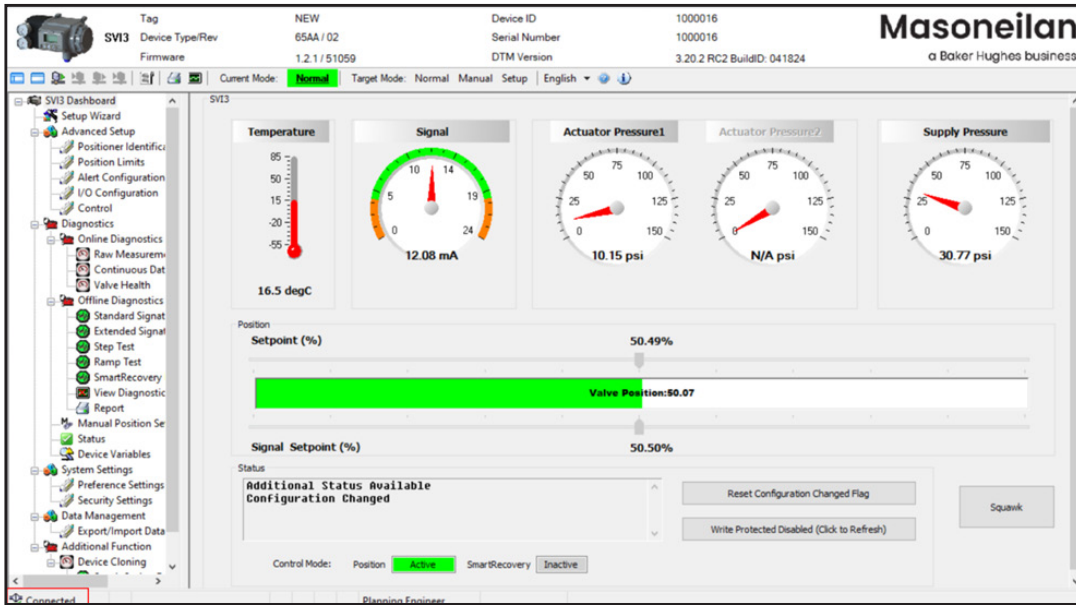

Figure 20 - Connected
3. Check that the SVI3 is connected (Figure 20).
4. Click **Upload All Parameters** icon (see red box in Figure 20).